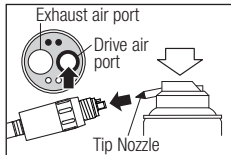

Fig. 15
- 3) Hold the motor and spray for approximately 2-3 seconds. Apply lubricant until it expels from the exhaust air port for at least 2 seconds. (Fig. 15)